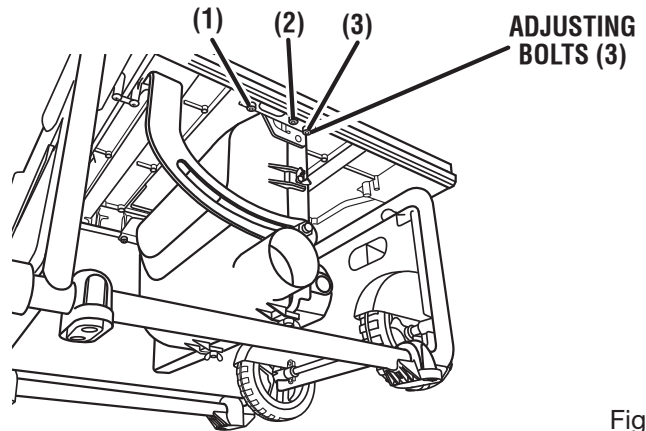

Fig. 28
See Figures 28 - 30.
- Mark beside one of the blade teeth at the front of the blade. Place a combination square even with the front of the saw table and the side of the saw blade as shown in figure 28.